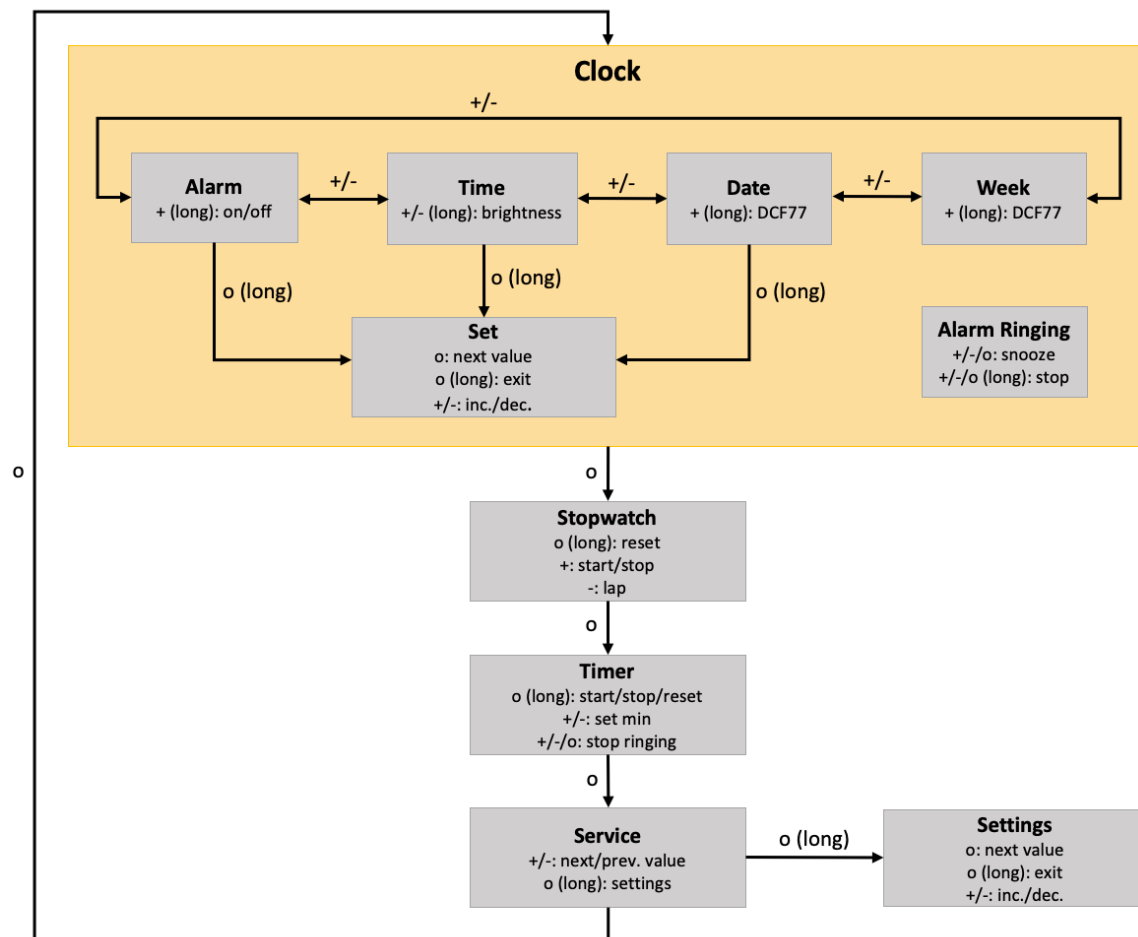

Figure 4 – navigation structure
Figure 4 shows the navigation structure of the Nixie Clock. Please note that a long button press is marked accordingly inside the diagram.
Depending on the mode of operation, the display of the Nixie Clock will show different numeric values, and light-up one or more decimal points (DP). Table 1 shows the meaning of the single digits and decimal points. The digits are grouped into pairs, whereas Digit 1 corresponds to the left Nixie tube while looking at the front of the device. An overview of the operation modes is shown in Figure 4.